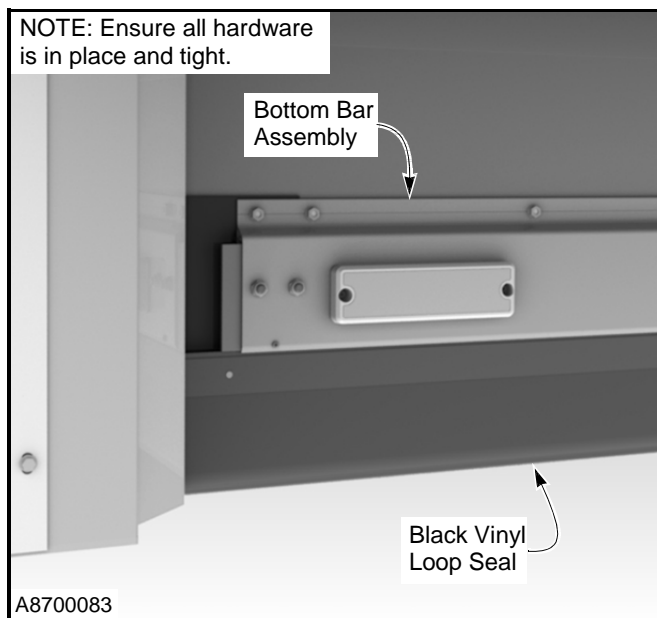

Figure 27
3. Inspect the black vinyl seal along the bottom bar assembly for tears and abrasion. Replace any worn or damaged parts as required. (See Figure 27)